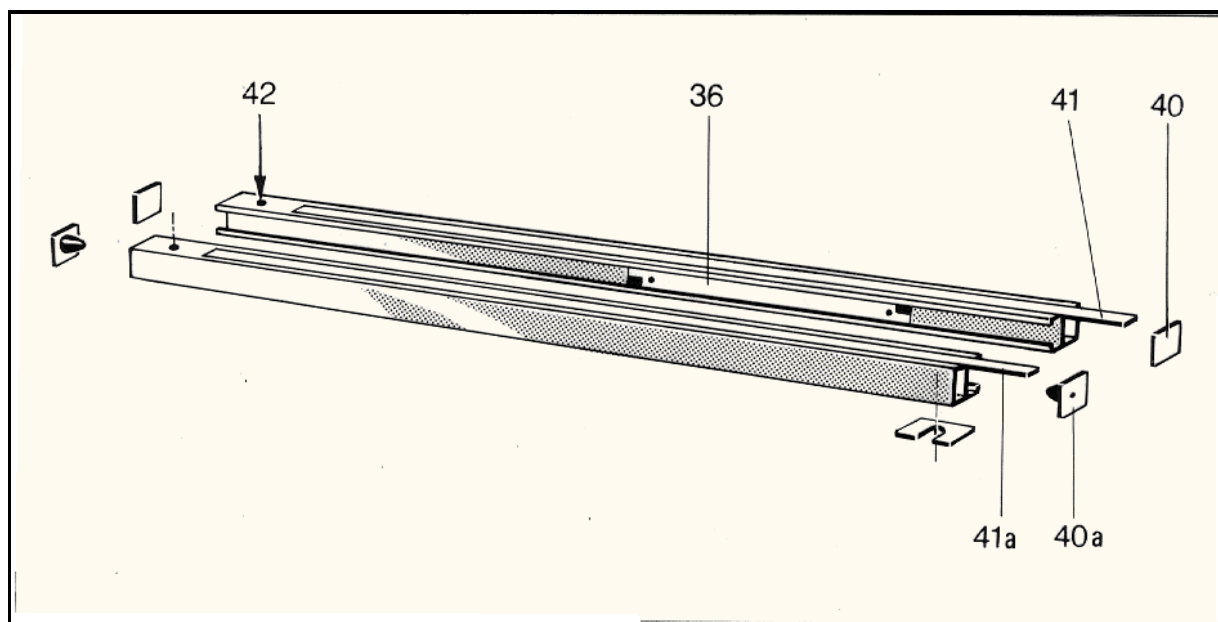

Fig. 28
FFD: Adjust switching rod on rear floor profile (Fig. 28/item 36) after loosening the two set screws.
- * Remove lateral covers (Fig. 28/ items 40 and 40a) from floor rails, push out trim covers (Fig. 28/ items 41 and 41a) and lay them down.
- * Check all floor mounting bolts (Fig. 28/item 42) for proper fit and tighten if necessary. Torque 50 Nm.